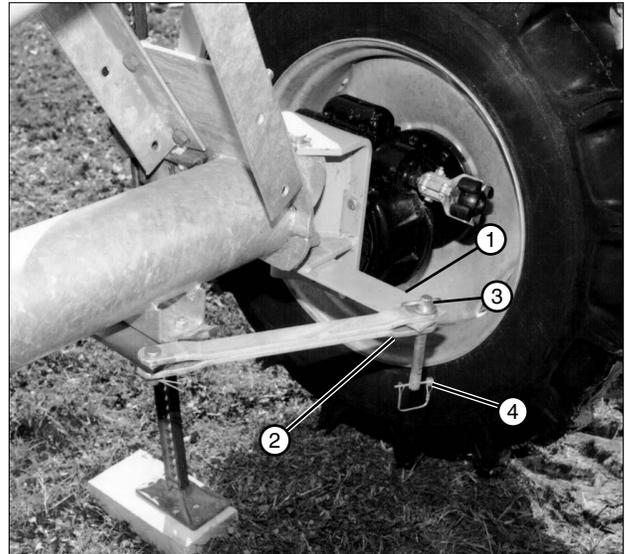

Figure 35-2 1. Steering Arm 2. Tow Link Bar Yoke 3. Torque Pin 4. Lynch Pin
9. Position steering arm in tow link bar yoke, align holes, then attach steering arm to tow link bar with torque pin. Secure torque pin with lynch pin. See Figure 35-2.